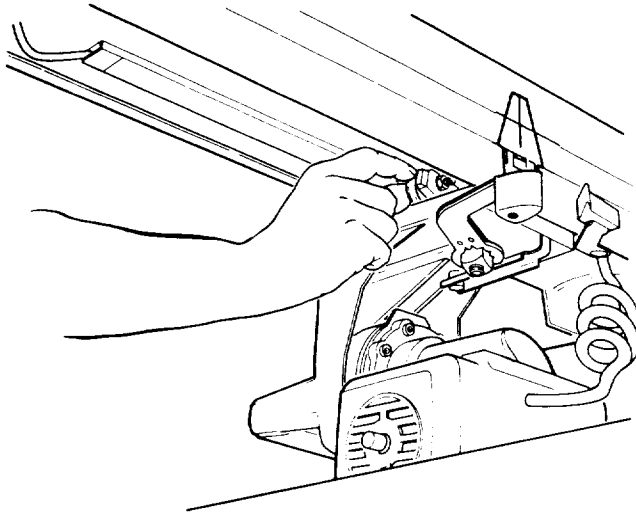

Fig. 135 - Front Carriage Bearings
3. Hold the *front carriage bearing* with your fingers as tight as possible and pull *carriage* forward at the same time. If you can prevent the *bearing* from turning an adjustment is required. (Figure 135)